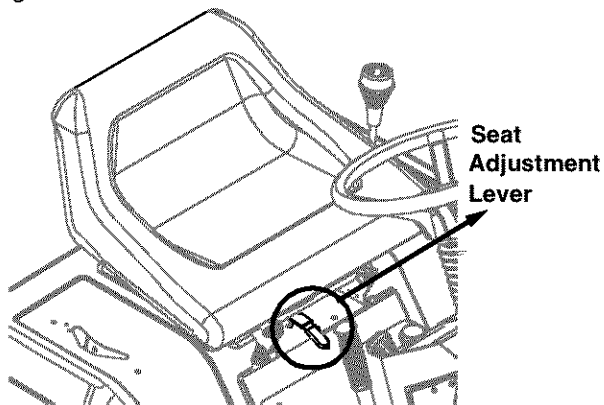

Figure 22
- To adjust the position of the seat, move the seat adjustment lever (located under the seat) to the left and slide the seat forward or backwards. See Figure 22. Make sure seat is locked into one of the six adjustment positions before operating the garden tractor.